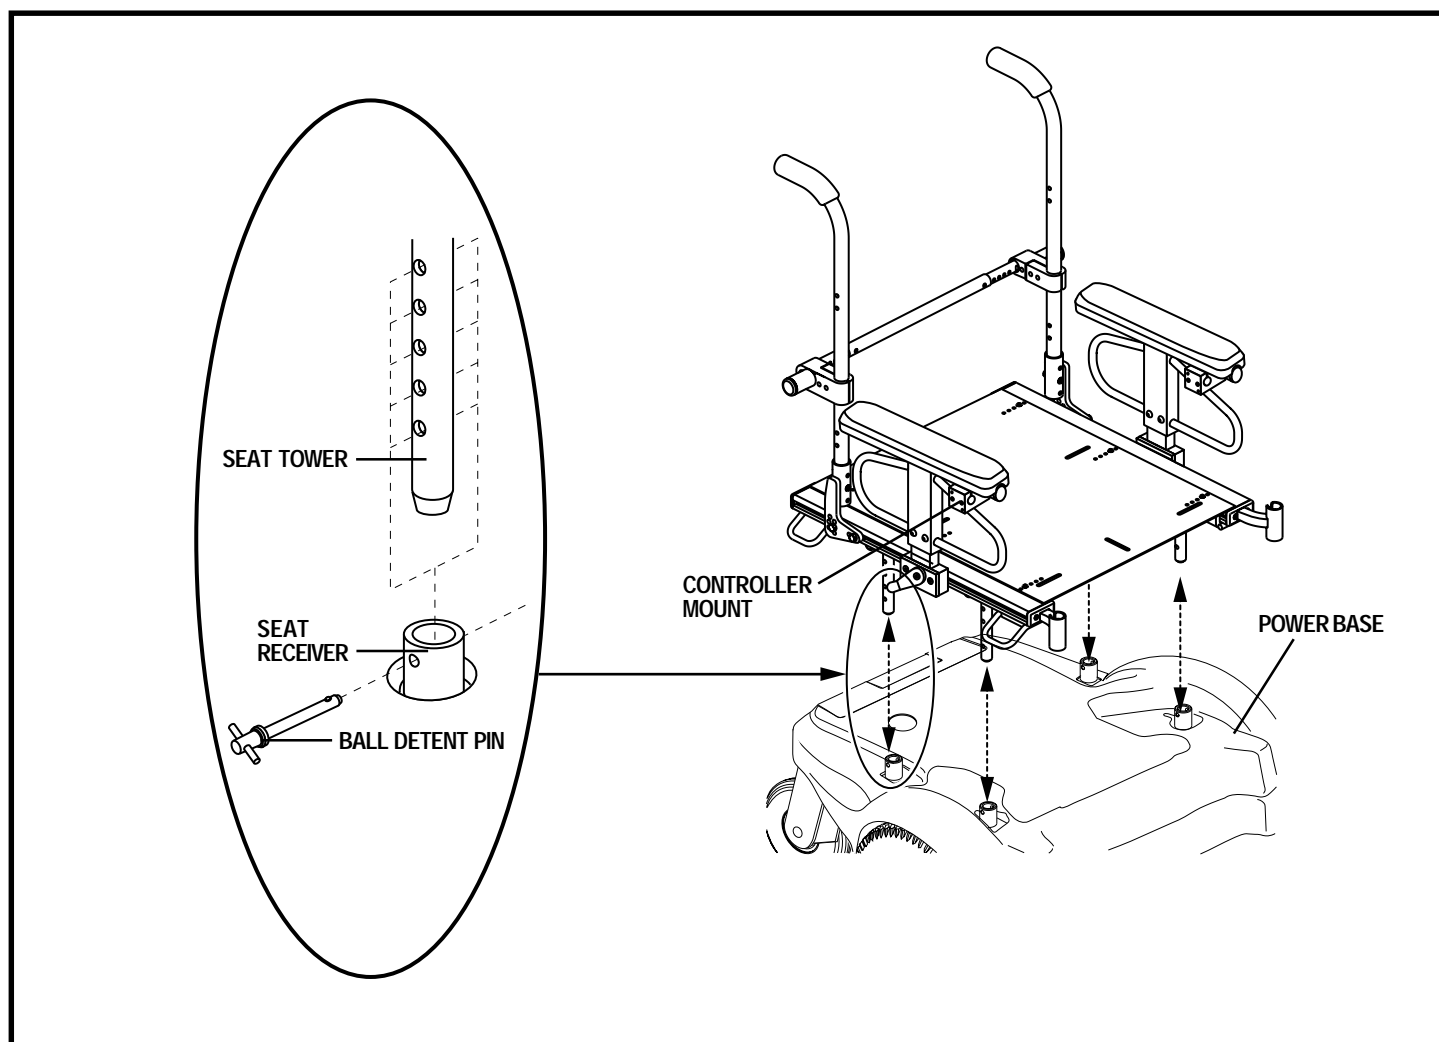

Figure 9. Seat Installation/Removal
2. Align each seat pin with the corresponding receiver. See figure 9.
3. Remove the ball detent pins from the seat receivers. See figure 9.